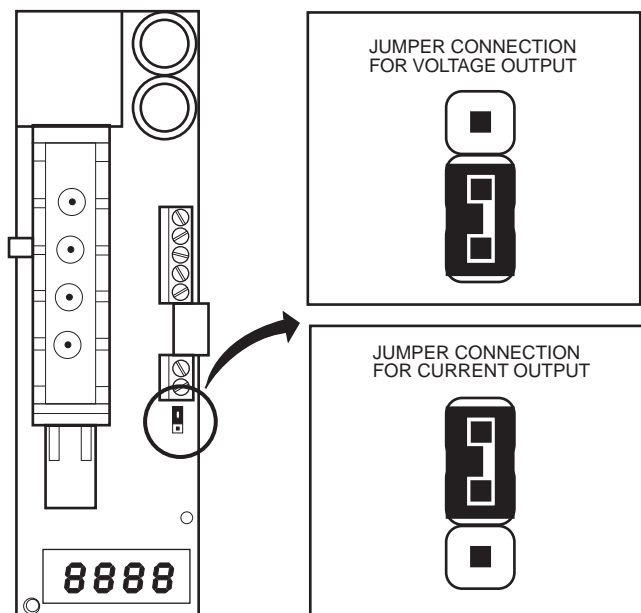

Fig. 12 — Indoor Air Quality Sensor Configuration
**NOTE:** The IAQ sensor must be set for current output (4 to 20 mA). This requires removing the sensor cover and removing a jumper on the sensor. See Fig. 12.